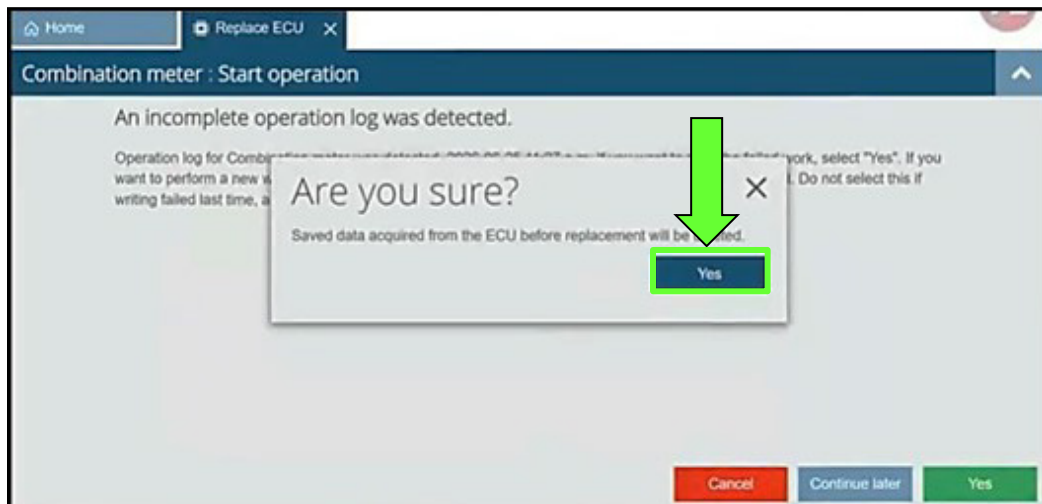

Figure 5
- j) When the screen in Figure 5 appears, select **Yes**.